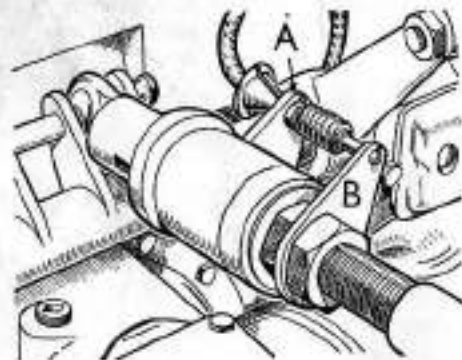
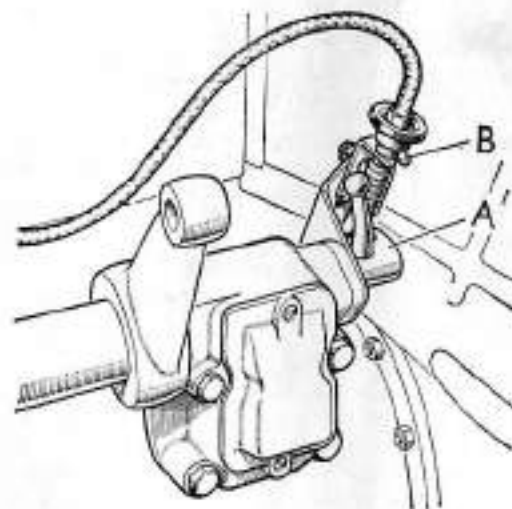

FIG. 6.
Fig. 9.
The attachment of the cable is changed according to the system in use. For system 1 it is connected to the top link as shown in Fig. 6. This extends the cable and allows TCU to be applied when required. For system 2 it is similarly connected to the top link so that changes in length of the top link with changes in draught, are conveyed to the control box. For System 3 the cable is connected to the ramshaft bracket as shown in Fig. 9 so that changes in height (position of the ramshaft) are conveyed to the control box. For System 4 the cable is stowed on the ramshaft bracket with the inner cable free. This allows a "hold" position to be selected at will by means of the control lever.
1. Ensure that the Top Link Cable is connected to the top link (Fig. 6).
1. Engage the nipple of the inner cable in the fork on the override control "A" and attach the outer cable to the bracket "B" on the ramshaft housing (Fig. 9).